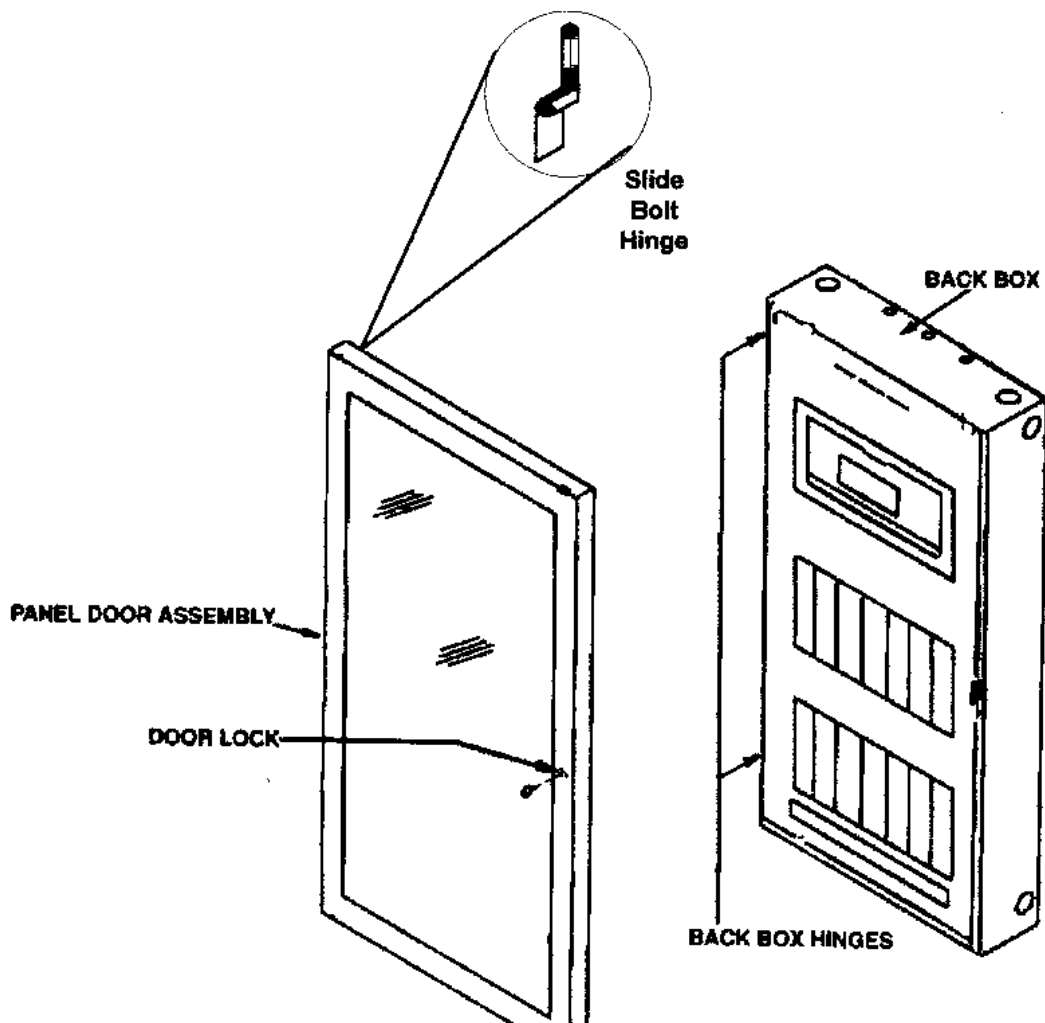

Figure 7 Mounting the door on the Back Box
13. Mount the door on the back box using the following procedure (See Figure 7).